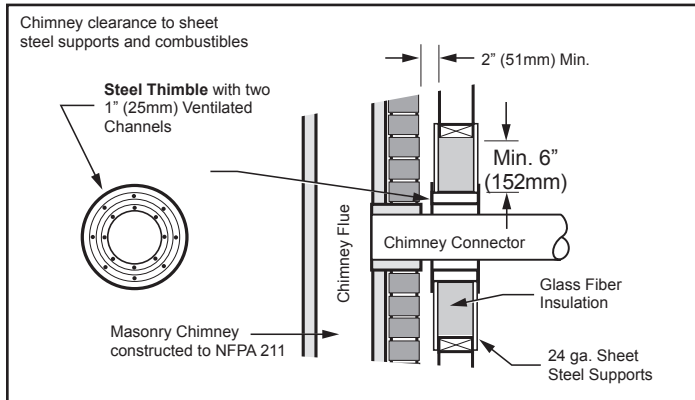

Figure 5.7 - Wall Pass-through using single wall chimney connector with a ventilated steel thimble.
- Placing a chimney connector pipe inside a steel double-wall ventilated thimble, which is then separated from combustibles by 6" (152 mm) of fiberglass insulating material. (Figure 5.7)